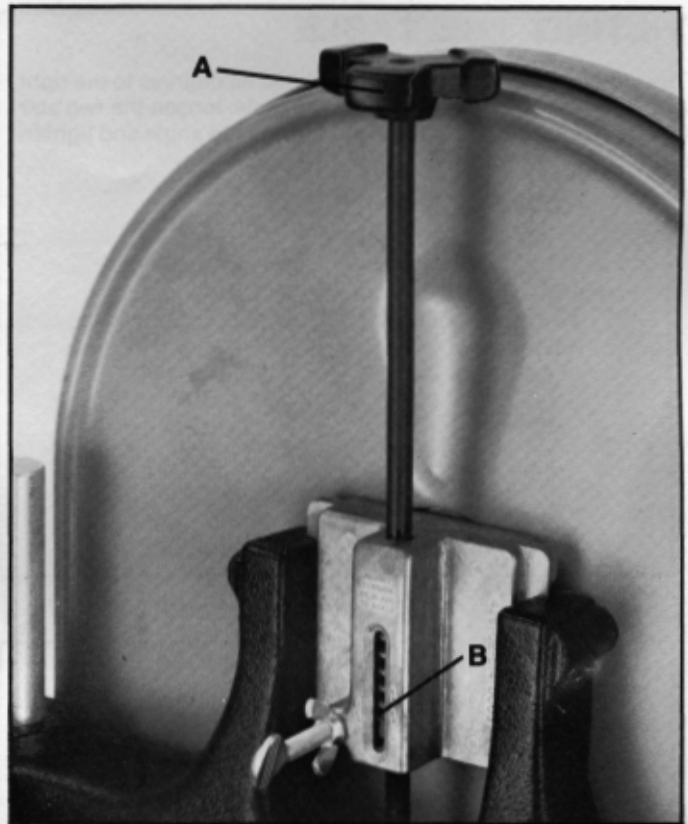

Fig. 31
On the back of the upper wheel slide bracket there is a series of graduations. These indicate the proper tension for various widths of blades. With the blade on the wheels, turn the knob (A) Fig. 31, to raise or lower the wheel, until the red fiber washer (B) is in line with the proper graduation for the size of blade being used.